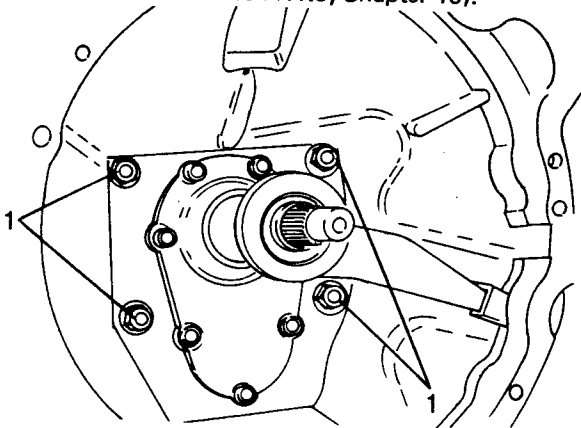

Fig H1.59
(2) Refer to Fig H1.59. Remove the fixing nuts (1) that retain the clutch housing to the gearbox housing.